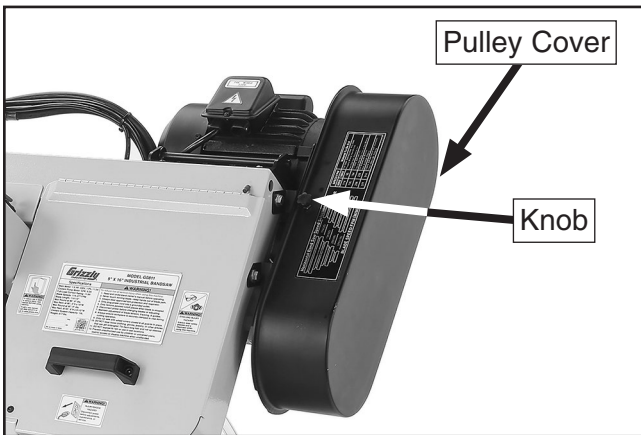

Figure 26. Location of pulley cover knob.
2. Remove knob shown in **Figure 26** and open pulley cover.